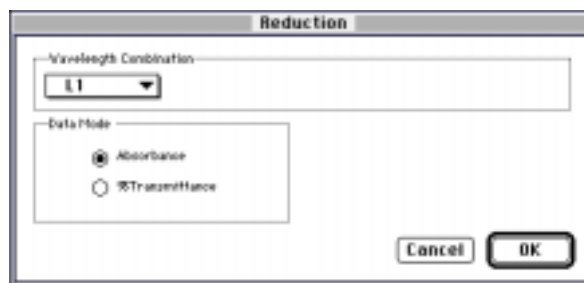

Figure 2: The Reduction dialog box
- Step 4** Click the Reduction button in the Cuvette Set or the Plate Section toolbar to display the Reduction dialog box. Set the wavelength combination to L1 and the data mode to Absorbance as shown in Figure 2.